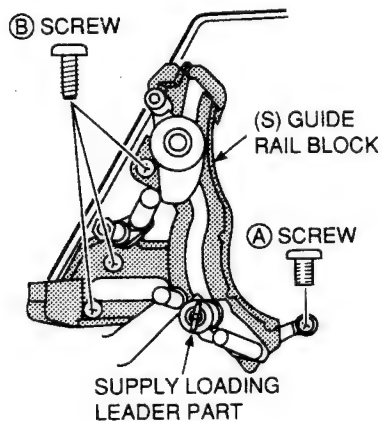

Fig. 3-31
5. Remove the (A) screw which retains the SUPPLY LOADING LEADER PART as shown in Fig.3-31.
6. Remove the three (B) screws then remove the (S) GUIDE RAIL BLOCK as shown in Fig. 3-31.